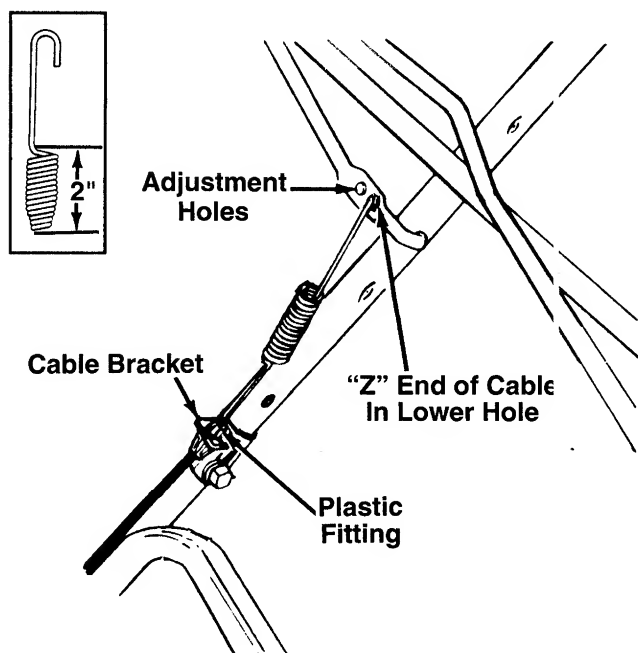

FIGURE 5.
1. The drive clutch cable is attached to the drive cover, and has a spring on one end. Route the cable above the lower handle. Hook the spring on the end of the cable into the lower hole on the drive clutch handle from the inside out as shown in figure 5.
1. Engage the drive clutch control handle (squeeze handle against the upper handle). Measure the spring on the drive clutch cable. It should measure approximately 2 inches long as shown in figure 5, inset. (Use the ruler on the bottom of page 4 to measure.)